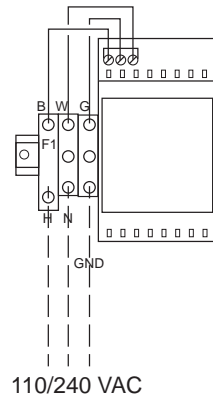

Figure 4.9—WiFi box external power supply wiring diagram
- d. Wire the external power supply to the designated terminal blocks (H, N, GND) as shown in Figure 4.9.